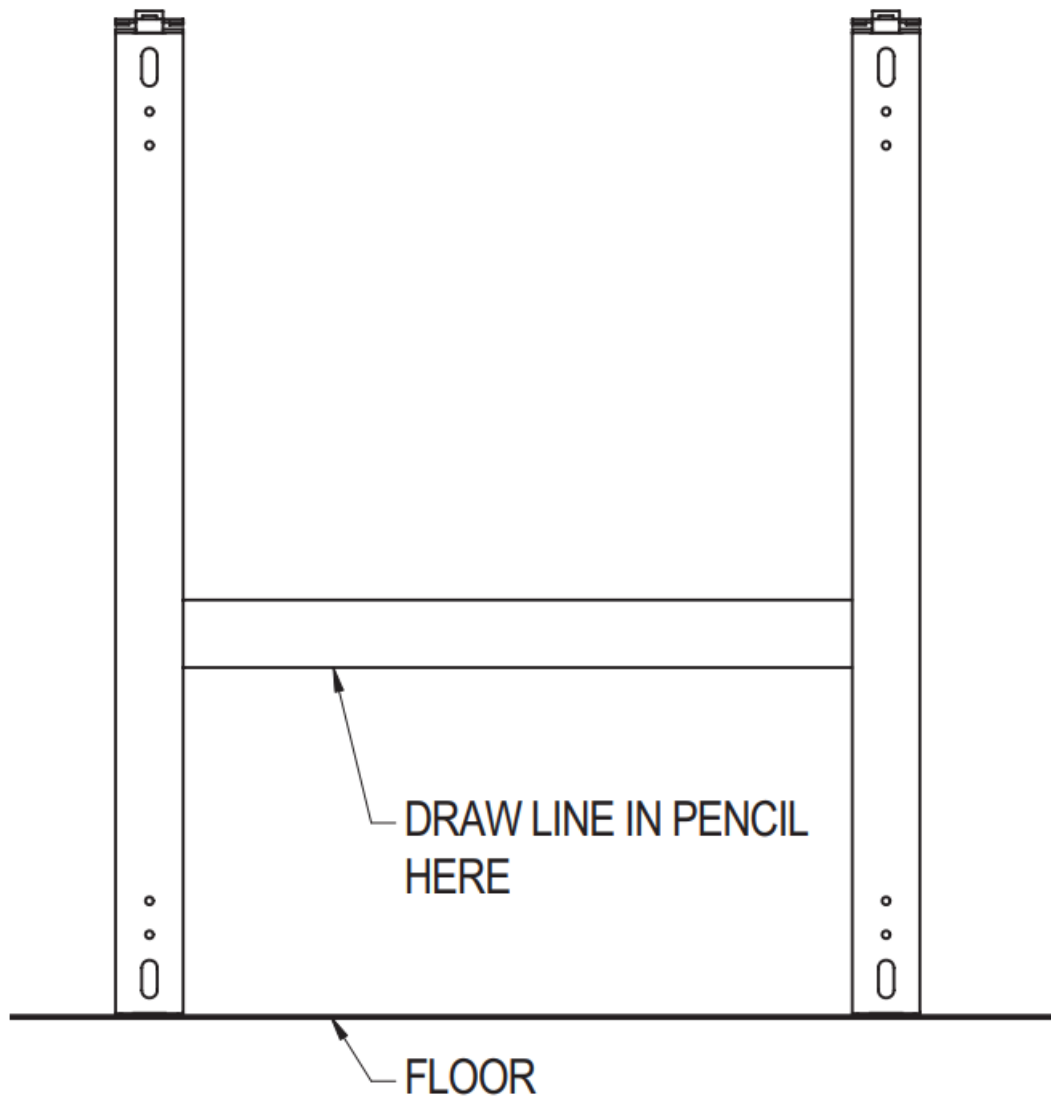

FIG. 1
2. Put the bracket on the floor, on the wall where the appliance is installed and draw a temporary line under the horizontal line of the bracket using a pencil. **(FIG. 1)**